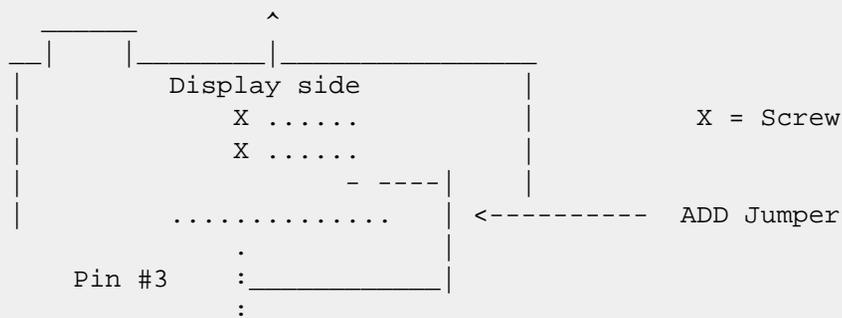

figure 2
- Solder a jumper wire to the foil side of the TX-RX board as shown in figure 2.